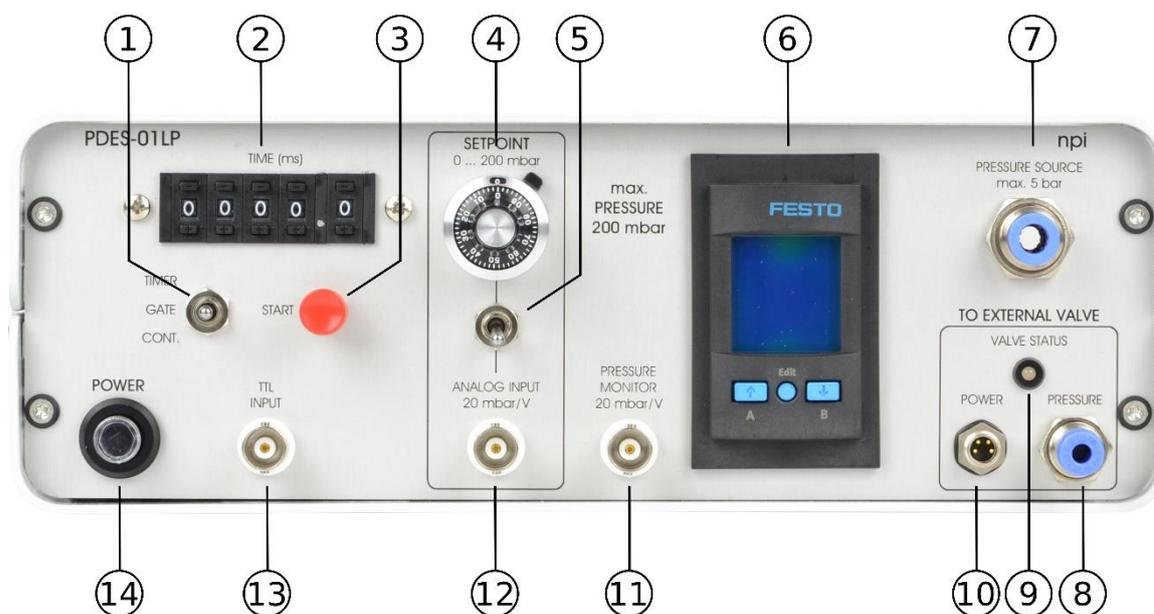

Figure 1: PDES-01LP front panel view (the numbers are related to those in the text below)
In the following description of the front panel elements, each element has a number that is related to that in Figure 1. The number is followed by the name (in uppercase letters) written on the front panel and the type of the element (in lowercase letters). Then, a short description of the element is given.
The tubing for input pressure (6 mm OD) and valve pressure (4 mm OD) can be directly connected to the respective quick connectors on the front panel (see #7 and #8, Figure 1).
- o Turn on pressure and adjust the SETPOINT pressure to the desired value using the SETPOINT potentiometer (#4, Figure 1) or the ANALOG INPUT (#12, Figure 1).
- o Set an application time with the TIME (ms) tumblewheel switches (#2, Figure 1).
- o Select the operation mode using the respective toggle switch at the front panel (#1, Figure 1).